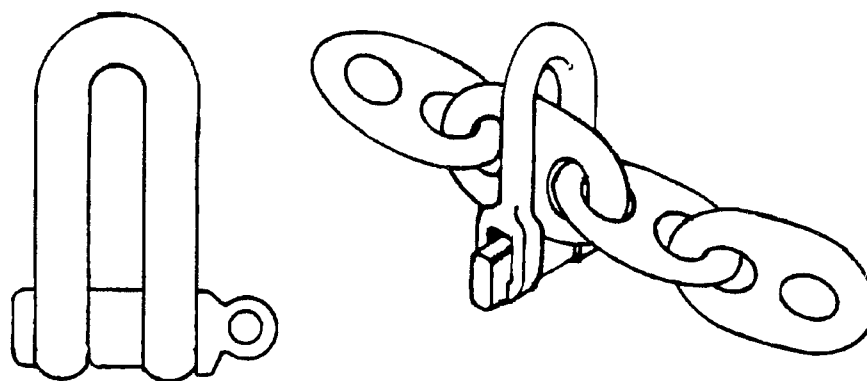

Fig. 2-22 Modeer shackle illustration and use
3. Modeer Shackles. Modeer shackles are specially designed shackles for the handling of stud link chain. These shackles are meant to replace nipper chains which can slip and spill. Modeer shackles are narrow, elongated shackles with a removable keyed pin. To use the shackle, remove the pin and slip the shackle over a link of the chain. Keyed into the shackle, the pin gives a positive lock while under strain, but is easily removed when there is no strain. Because of the shackle's narrow shape, the chain cannot slip through it. Due to its elongated shape, there is room in the shackle for the boom hook after the shackle is in place over the chain (See **Figure 2-22**).